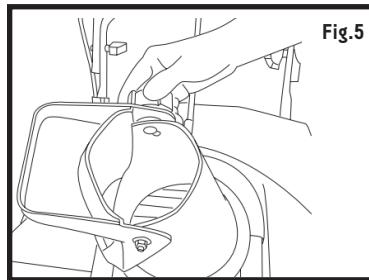

Fig.5
- Loosen the knob to lift the chute deflector (Fig. 5).